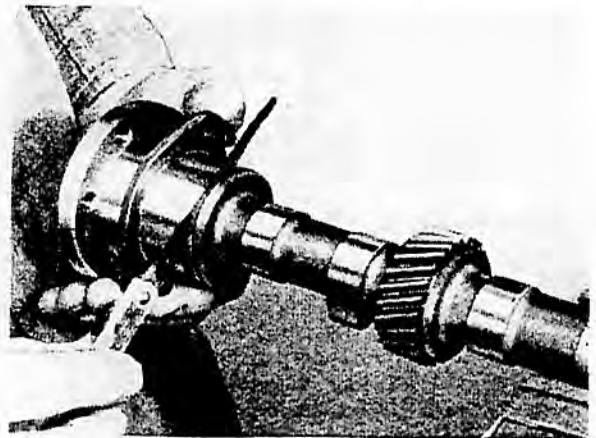

FIG. 133 FRONT CAMSHAFT BEARING END-FLOAT
1. After lubricating the front bearing sleeve, slide this on to the front camshaft journal and ensure that it is free to rotate. Next insert the two set screws into the front camshaft bearing, as shown in Fig. 133 and after inserting the Woodruff key, fit the driving hub, followed by the lock plate and the securing nut. With the camshaft held in a soft jawed vice, tighten the securing nut and check the front bearing end float, which should be between 0.004" and 0.006" (.102-.152 mm.), as shown in Fig. 133. If there is insufficient end float with a new bush, it should be removed and carefully rubbed down on emery cloth, until the correct end float is obtained. Finally secure the nut by turning the lock plate tabs.